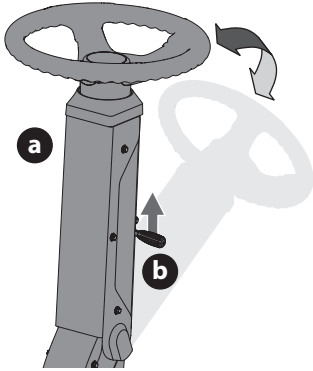

Figure 14
- To tilt the steering wheel column (a) forward, lift the steering wheel column adjustment lever (b), place the steering wheel column (a) in the desired position and then release the steering wheel column adjustment lever (b) to secure the steering wheel column in place (Figure 14).